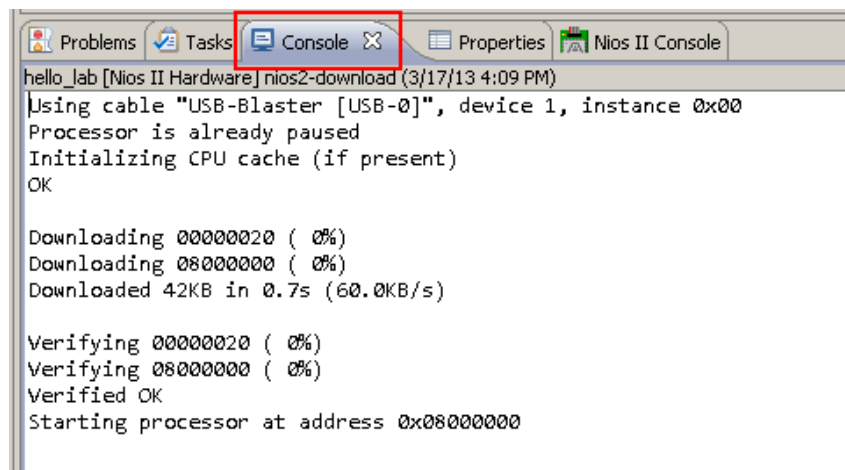

Figure 3.5: Displaying messages of downloading application to Nios II in the Console tab
5. You should soon be able to see the progress of the building and downloading process in the Console tab of the IDE as shown in Figure 3.5. “*Hello from Nios II*” will be displayed in the “Nios II Console” as shown in Figure 3.6, once the application has been downloaded and executed successfully. Click  to terminate the execution.